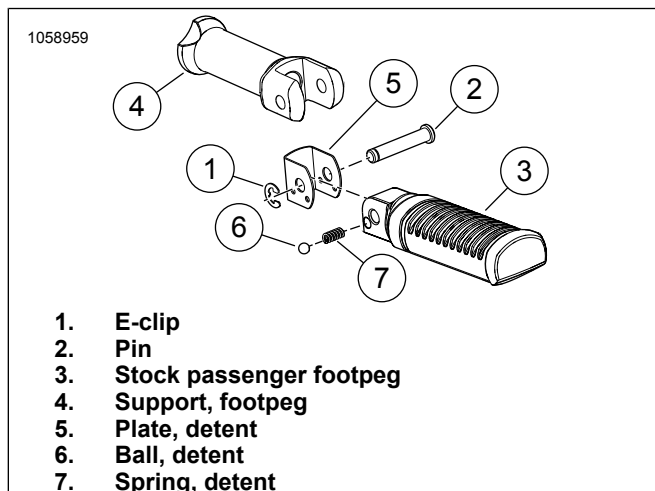

Figure 3. Footpeg Assembly
See Figure 3. When performing the next step, verify that spring (7) is positioned inside of footpeg (3).
1. See Figure 3. Vehicle has a pin (2) and E-clip (1). Remove them and retain for future use. Save all hardware, including detent spring (7), detent ball (6) and detent plate (5) for installation of the new footpegs (3).
2. Insert detent spring (7) into **new** footpeg (3), followed by detent ball (6).
3. Position detent plate (5) on footpeg clevis edge while capturing detent ball (6) and detent spring (7) inside detent plate (5) while sliding detent plate (5) onto footpeg clevis.
4. Align detent plate (5) and footpeg (3) with footpeg mount on vehicle.
5. Install pin (2) and E-clip (1).